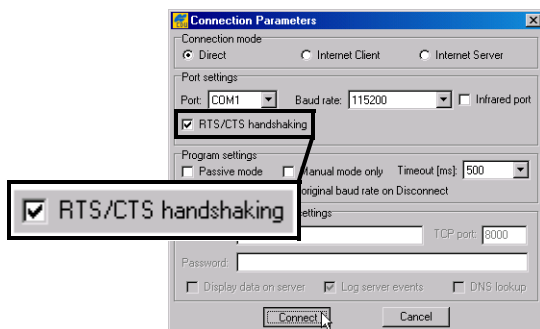

Figure 5-9. Connection Parameters – RTS/CTS Handshaking
2. Open PC-CDU. On the **Connection Parameters** dialog box, enable *RTS/CTS handshaking* and click **Connect** (Figure 5-9).